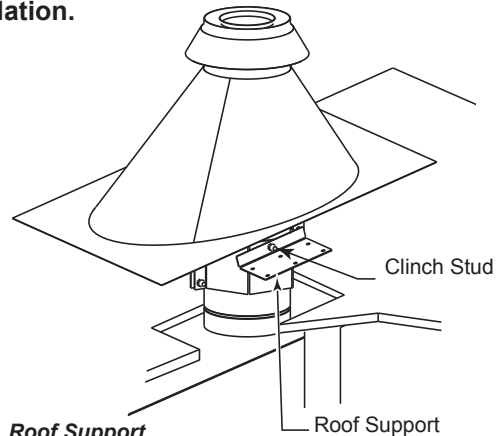

Figure 6 Roof Support
- Fasten the roof support to the roof sheathing using 2" wood screws provided. *Figure 6.* Ensure that the termination pipe is centered and has a minimum of 1" clearance on all sides from combustible materials. *Figure 7*